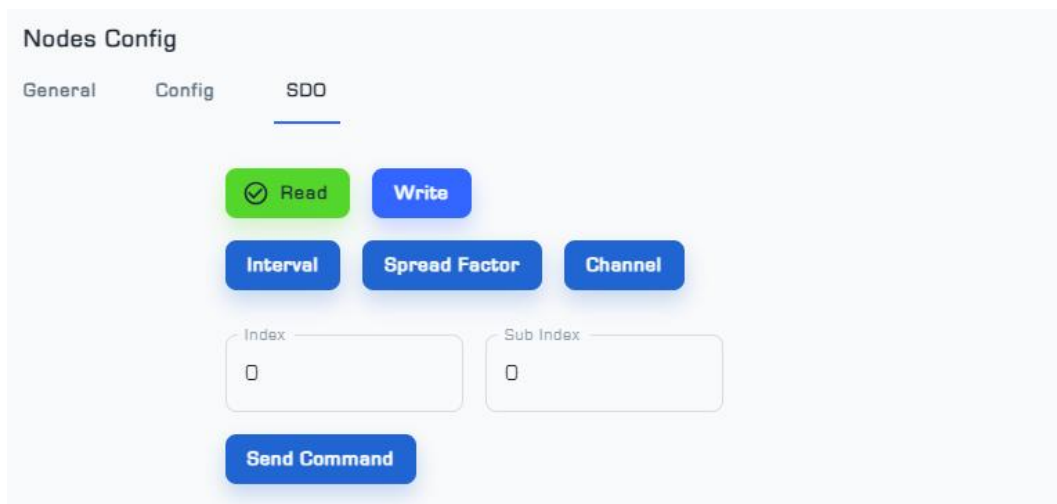

Figure 7: SDO Menu from Node Setting page
- The SDO menu is used to change the parameters of Interval ¹, Spread Factor, and Channel² (Figure 7).